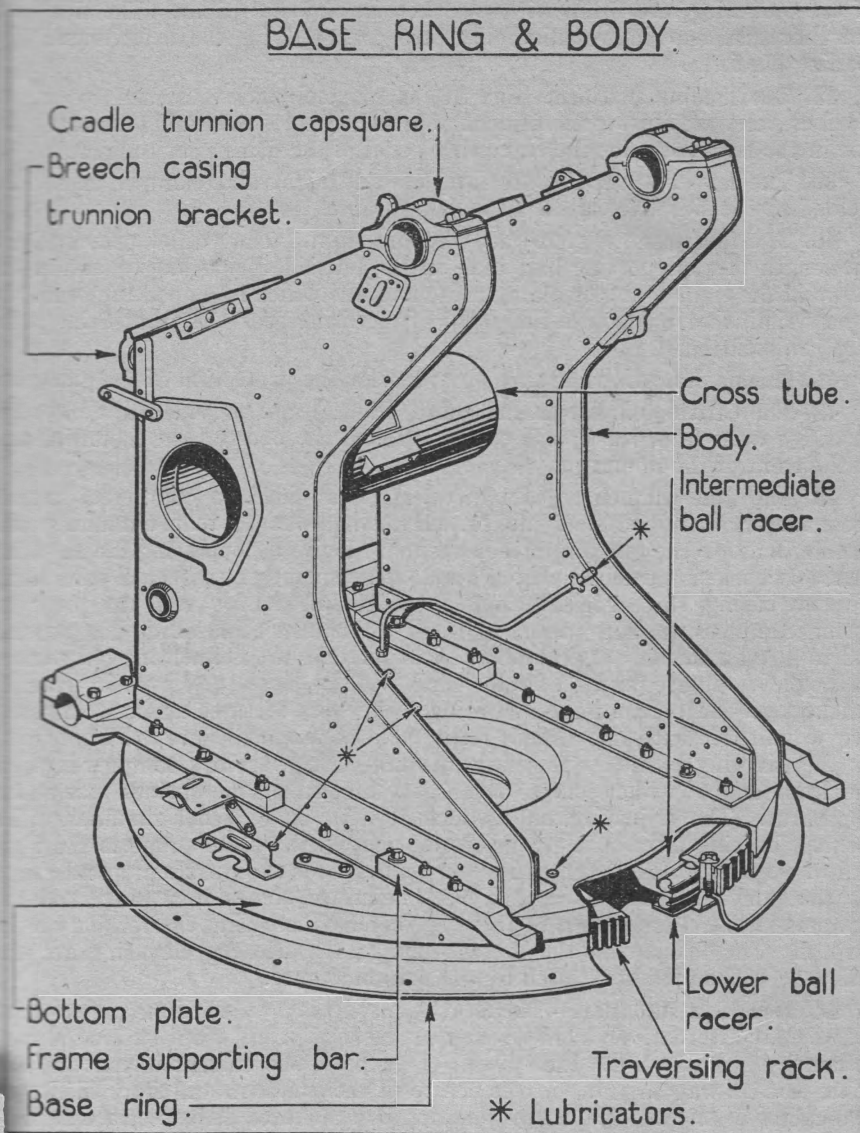

FIG. 19.
34. The **base ring** (Fig. 19) is secured to the upper side of the top plate of the platform by screws with locking plates. At the inner side of the flange the ring is raised and a traversing rack is secured to it. The inner side of the raised portion is stepped and houses a **lower ball racer** and ball bearing cage. The ring is dished towards the centre, and a circular aperture with a flange formed on it to take a base ring bush is prepared.
35. A **lower ball racer** (Fig. 19) is fitted inside the raised portion of the base ring to carry a lower ball race on top of which an intermediate ball racer
36. The **body** (Fig. 19) is built up of steel plates and angles. It consists principally of left and right sides connected by a cross tube and has a bottom plate secured to the sides by bolts.
**37. A supporting frame** (Fig. 19), rectangular in shape, is built up of steel bars welded together. It is attached to the body by four frame supporting bars. Two deflector chute supporting angles, right and left, are secured to the front and intermediate cross bars. The side bars, in rear of the centre of the mounting, are fitted with a socket for the seat pillar. The side bars, rear bar and rear intermediate bar, are prepared for the attachment of a loading platform.